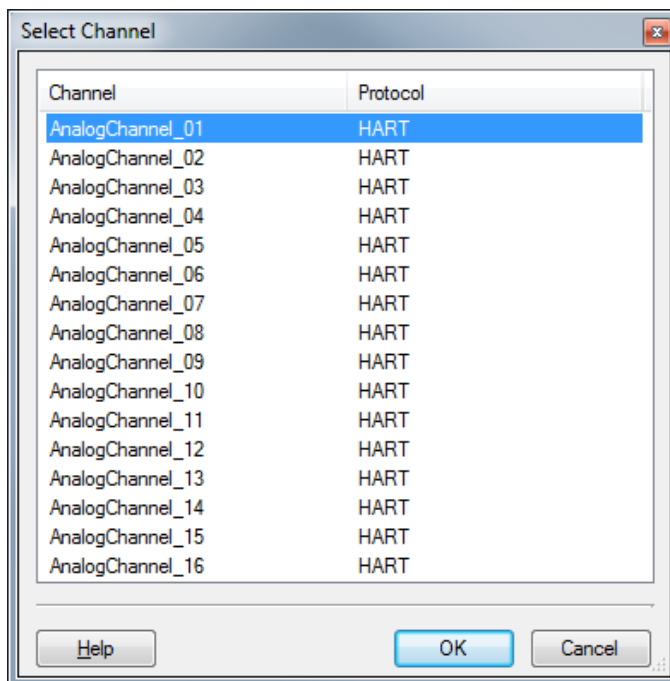

Figure 11: Manually Assigning HART Devices to Connected Analog I/O Module Channels
3. Add a *HART Device* DTM to an analog channel of the *PACSystems HART-capable Analog Module* DTM. With the analog module node selected in the *project*, the *Device* Menu, *Add* or *Add Device* option will display a list of compatible HART devices available in the catalog. After selecting a HART device, a dialog similar to that shown in Figure 11 will commence: